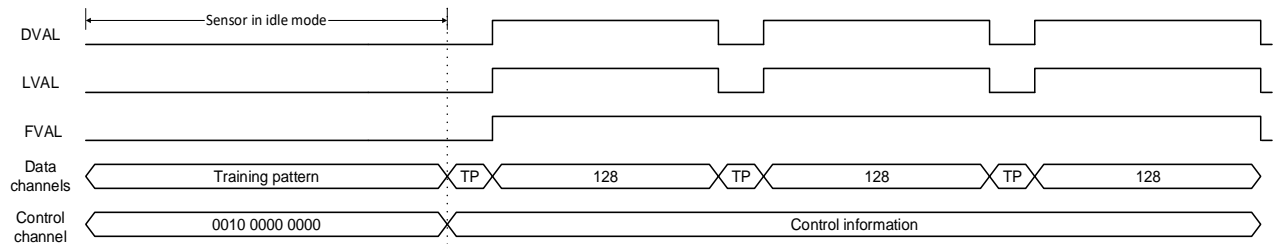

FIGURE 33: TRAINING PATTERN LOCATION IN THE DATA AND CONTROL CHANNELS
The control channel does not send a training pattern, because it is used to send control information at all time. Word alignment can be done on this channel when the sensor is idle (not exposing or sending image data). In this case all bits of the control word are zero, except for bit [9] (= 0010 0000 0000 or 512 decimal). Figure 33 shows the location of the training pattern (TP) on the data channels when the sensor is idle and reading out 3 rows. The default mode of 16 outputs is selected.